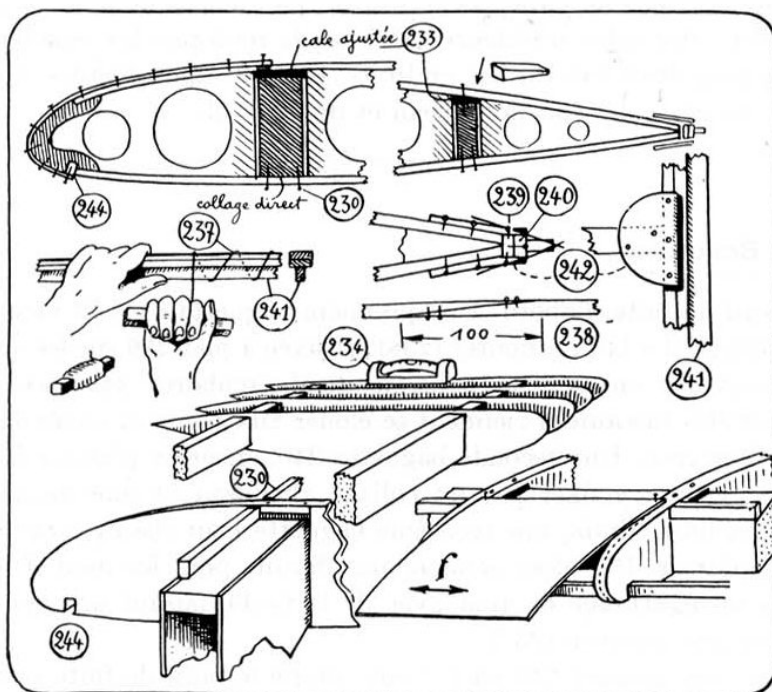

Figure 4.6: Assembling the wings
A  $6 \times 12$  strip is laid from end to end in the notches (244) cut under the nose of each rib. Pieces of  $6 \times 12$  strip are then placed on edge (230). This refers to (230) at the bottom of Figure 4.6, not the one at the top. between each pair of ribs along the front of the spar. Then wrap the rounded top of the ribs with 1.5mm plywood, the grain of which should run along the wingspan, gluing from (230) to (244). It is wise to only cover one bay (*i.e.* 300mm) at a time, either butting the plywood sheets at the middle of each rib, which gives 6mm gluing area for each, or by overlappint slightly beveled edges. This covering